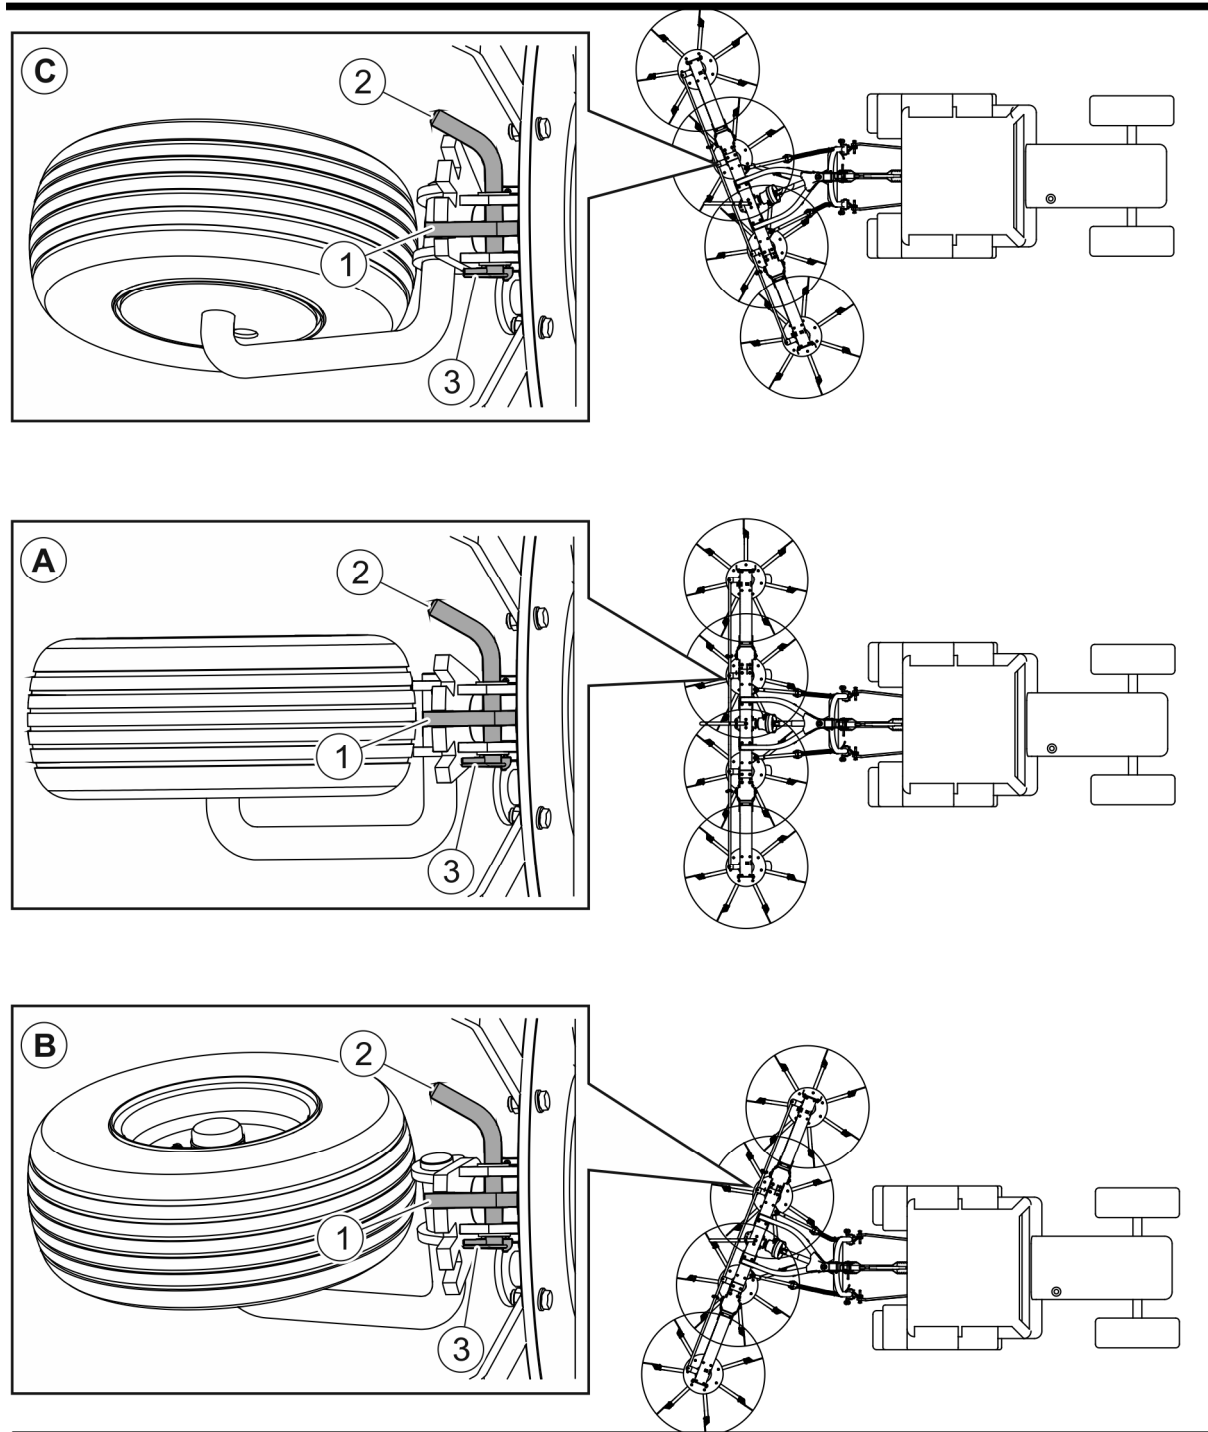

FIGURE 4.9 Tedder operation - border tending (along the edge of the field)
During boundary tending (along the field edge), adjust the deflection of all road wheels (FIGURE 4.9). When operating the tedder at the right edge of the field, all road wheels should be swiveled to the right (B), when working at the left edge of the field, all road wheels